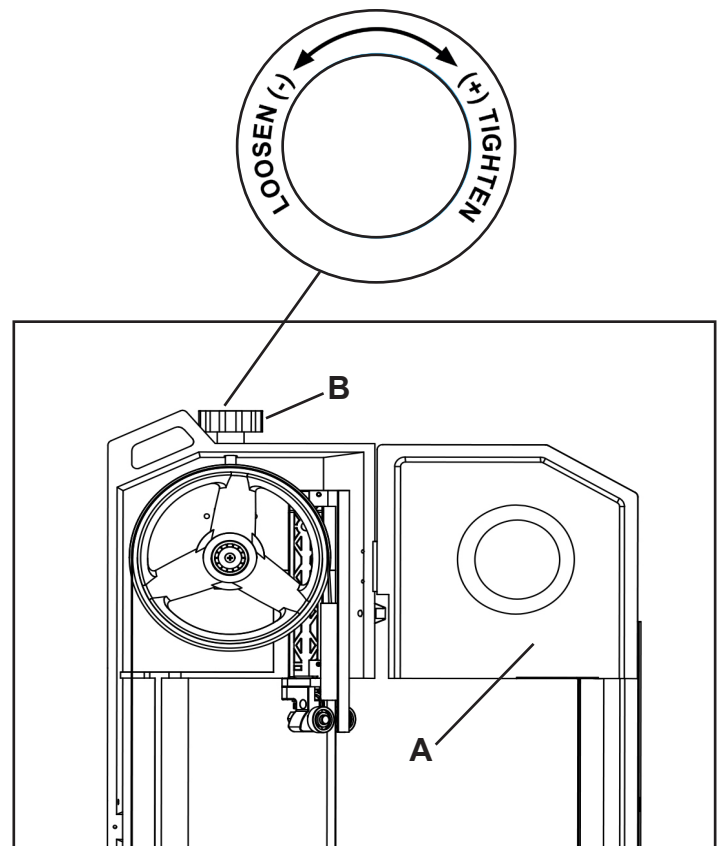

FIGURE 27
4. Open the wheel access cover (A-Fig.27).
5. Loosen the tension knob (B-Fig.27) and slip the blade off of the wheels.